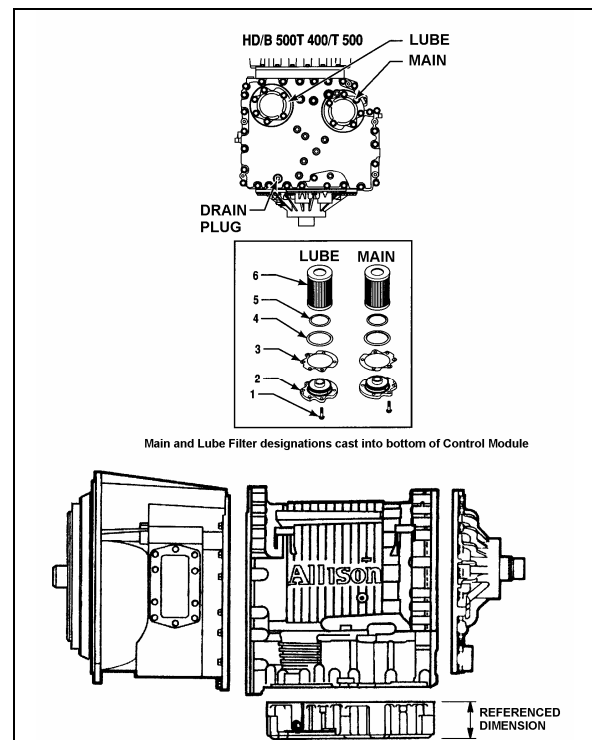

FIGURE 6: DRAIN PLUG AND FILTERS
2. Remove the drain plug from under the transmission (Fig. 6) and allow the oil to drain into a suitable container. Check the condition of the oil as described previously.
3. To replace the integral filters, remove twelve bolts (6 on each cover), two filter covers, two O-rings, two square cut seals and the two filters from the bottom of the control module (Fig. 6).